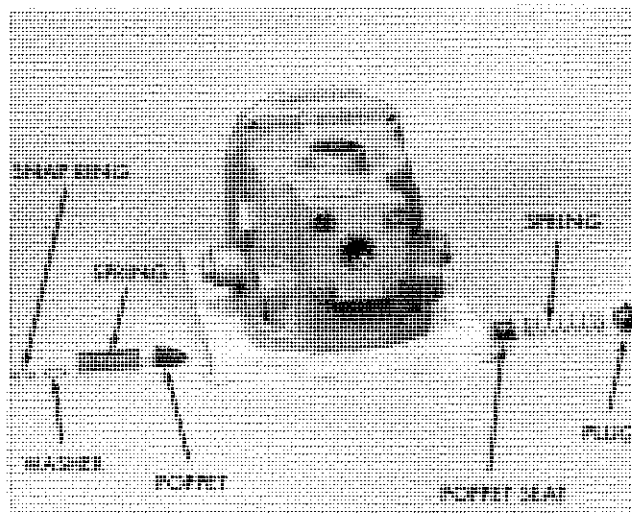

Figure VI-9. Removal of Low Pressure Relief Valve Assembly
3. Removal of Low Pressure Relief Valve Assembly (Figure VI-9)